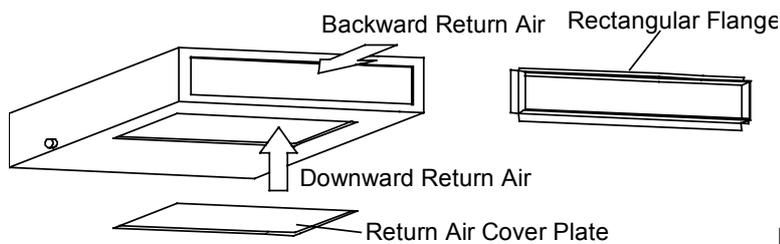

Fig. 5-11
1) The default installation location of the rectangular flange is in the back and the return air cover plate is in the bottom, as shown in Fig. 5-11.